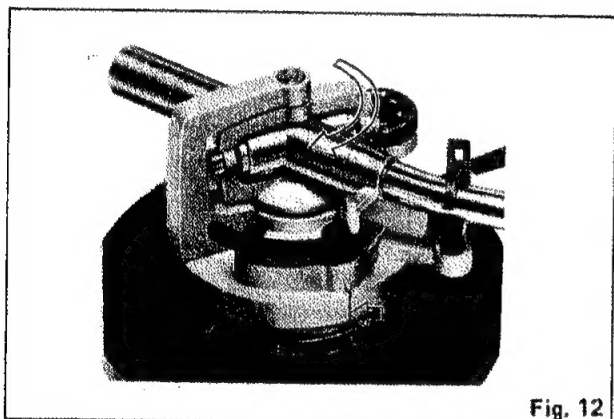

Fig. 12
3. Hold the arm base and set the red line mark on the arm base to the scale near "2", then turn the arm base clockwise. (See Fig. 12)